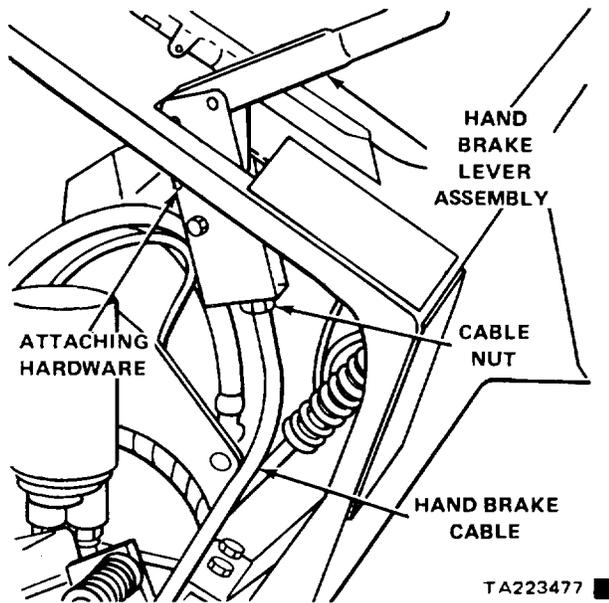

Figure 4-52. Hand Brake Lever, Removal and Installation
a. Removal. Refer to figure 4-52 and remove the complete hand brake lever assembly.